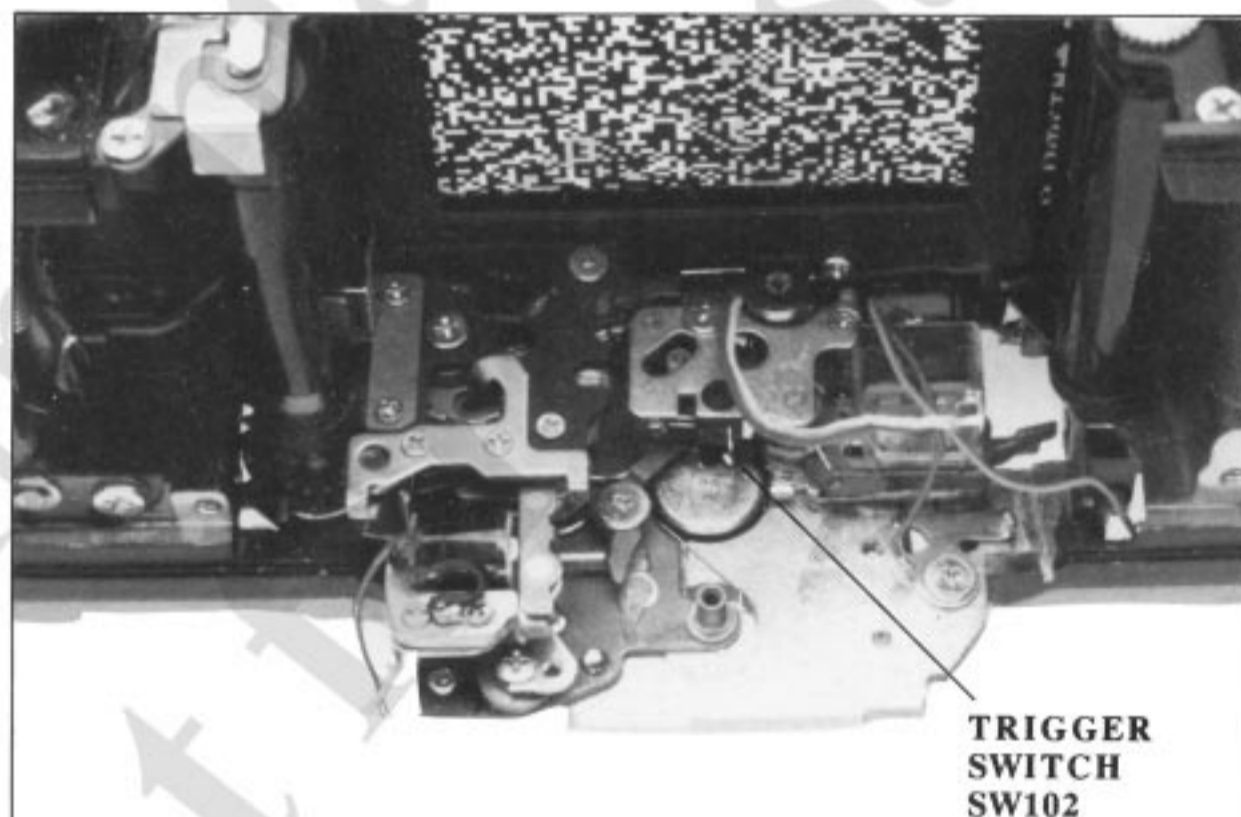

FIGURE 14 - FRONT VIEW, TV BOARD REMOVED
2. SW102. Trigger switch, bottom of camera connecting to TV board, Fig. 14. Opens when the 1st curtain starts to run to start the exposure cycle (start of integration).